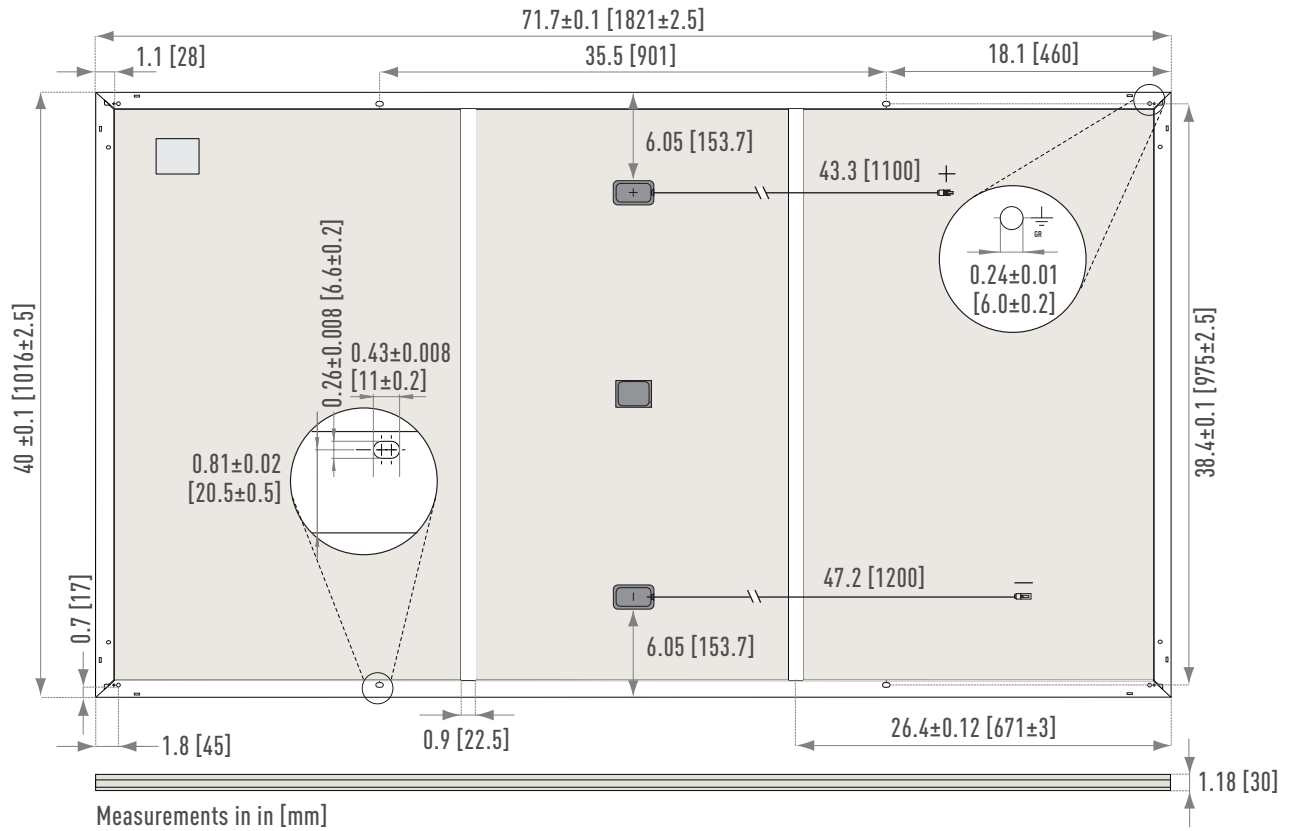

Figure 2. Module Dimension for EVPVxxxH Series
- To ensure connector compatibility and reduce the potential for damage to the modules and the wider installation, the connectors used on the EverVolt modules are detailed in the Figure 2. Only permitted the mating of factory-installed connectors to connectors of the same manufacturer, type, and system rating as shown in the table below (Table.2).